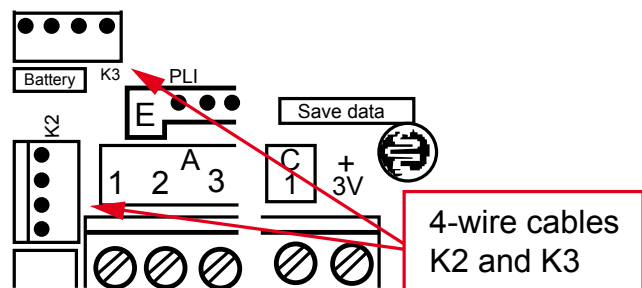

Fig 1, Connection terminal F4
3. Cut the power by disconnecting the four-pole connectors K2 and K3, cf. Fig.1.